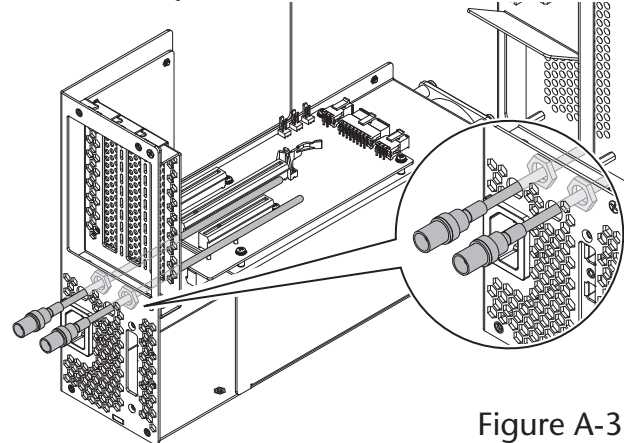

Figure A-3
4. Insert the BNC connector cables through the BNC connector mounting holes in the module (**Figure A-3**). Route the cables out over the top of the PCIe slot riser card.
5. Slide the BNC connector nuts over the cables, and then secure the connectors to the module (**Figure A-3**).